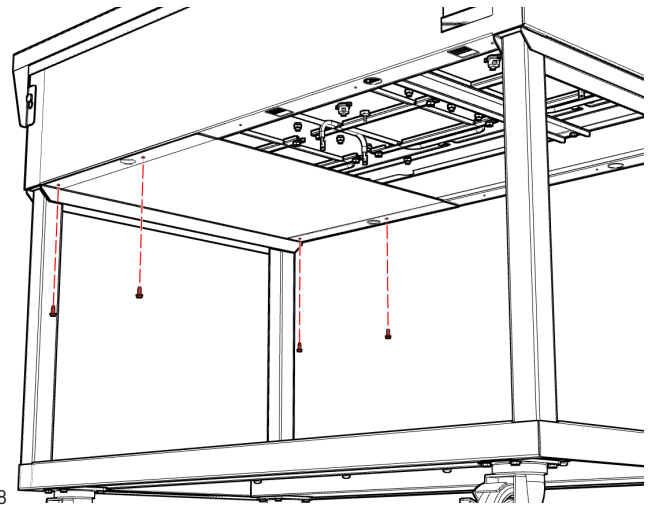

Fig. 8
2. Remove four (4) M4.8 × 13 mm hex head screws from left-hand access panel. Drop panel away from unit to remove (Fig. 8).